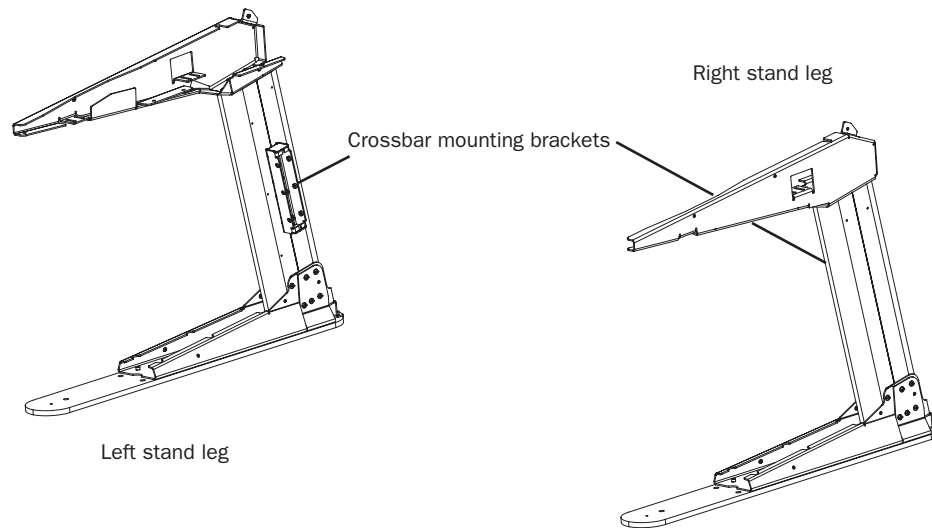

Figure 10. D-Control stand legs positioned with crossbar brackets facing each other
**1** Place the right and left leg assemblies upright, and at the approximate width of the rear crossbar assembly. Position the legs so that their crossbar mounting brackets are on the insides of the legs, facing each other as in Figure 10.